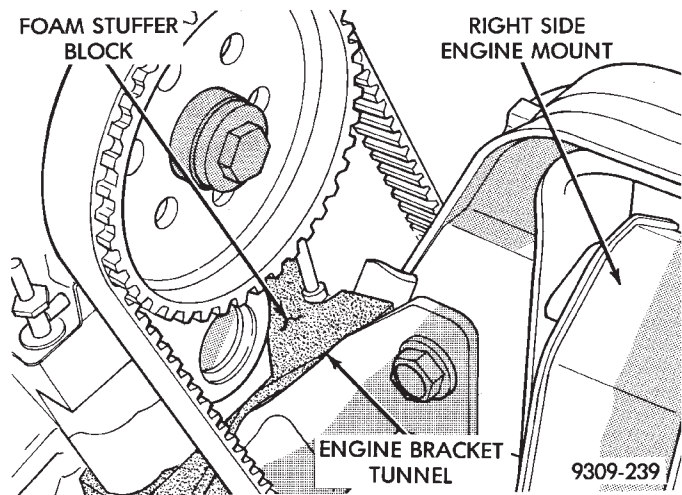

Fig. 14 Foam Stuffer Block Location
- (18) Inspect foam stuffer block condition and position (Fig. 14). Stuffer block should be intact and secure within the engine bracket tunnel.
- (19) Install upper timing belt cover and PCV tube. Refer to procedure in this section.
- (20) Install accessory drive belt. Refer to procedure in this section.